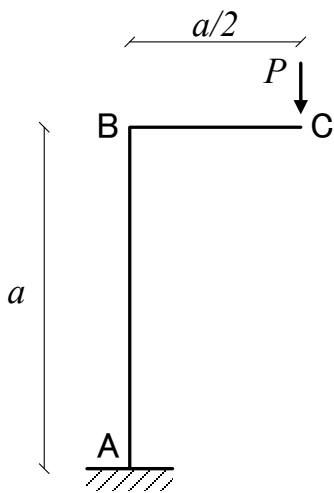
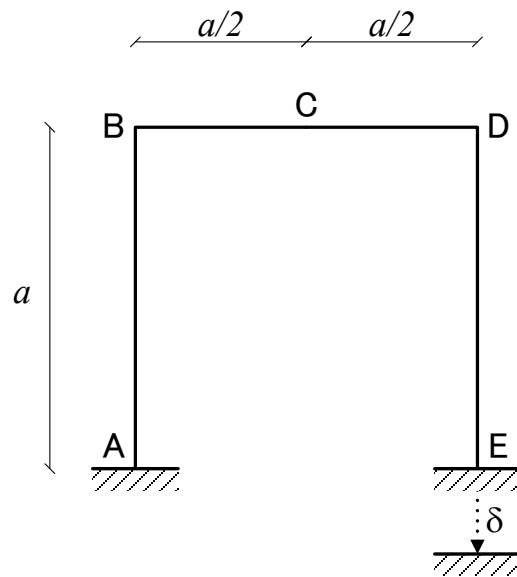

Fig. 1
Fig. 2
(1) A structure subject to a force P at Point C is given in Fig. 1.
- ① Draw the bending moment diagram.
- ② Find the vertical deflection δ_V and horizontal deflection δ_H at Point C.
- ③ Draw the outline of the structure's deformation.
(2) A structure is given in Fig. 2, and its column bottom at Point E is vertically settled by δ .
- ④ Find the vertical deflection at Point C of the member's center using δ .
- ⑤ Draw the bending moment diagram.
- ⑥ Draw the outline of the structure's deformation.